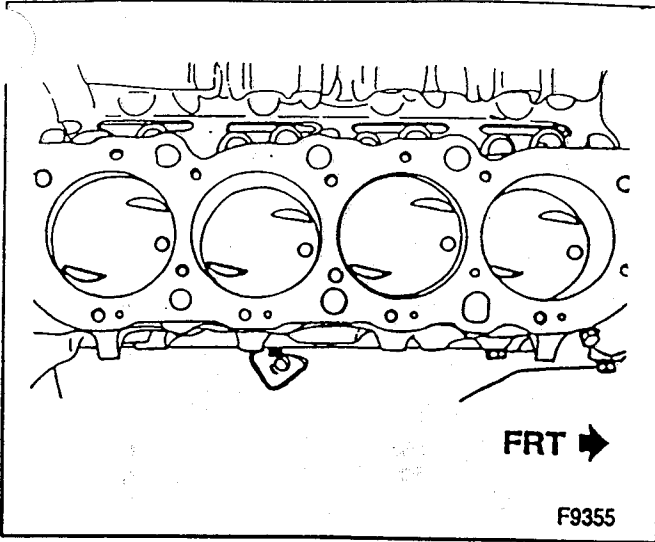

Figure 81—Piston Installed (7.4L Engines)
- On 7.4L engines, the dimple must face the front of the block (figure 81).